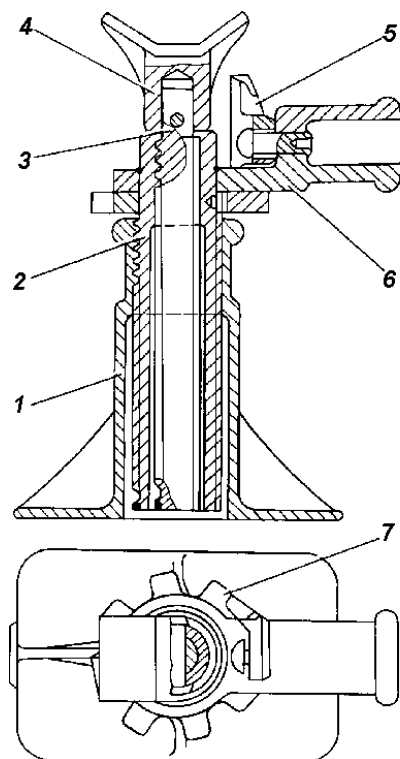

Fig. 79. Jack:
**The Jack** (Fig. 79) is designed to jack up the automobile wheels for maintenance. The jack load-lifting capacity is 2 t. The maximum height of lifting is 240 mm.